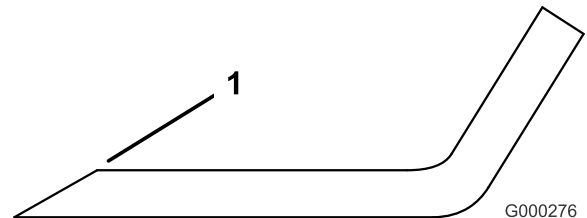

Figure 102
3. Examine the cutting edges of all of the blades. Sharpen the cutting edges if they are dull or nicked. Sharpen only the top of the cutting edge and maintain the original cutting angle to make sure of sharpness (Figure 102). The blade will remain balanced if the same amount of metal is removed from both cutting edges.
If the blade is allowed to wear, a slot will form between the sail and flat part of the blade (Figure 102). Eventually a piece of the blade may break off and be thrown from under the housing, possibly resulting in serious injury to you or bystanders.